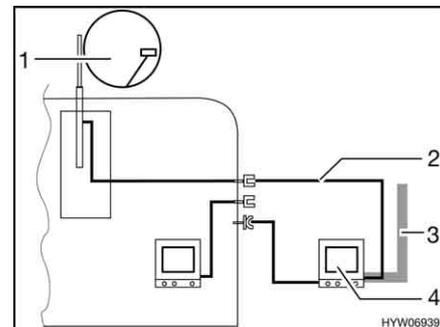

Fig. 170 TV in the awning
- TV inside the awning (Fig. 170,4): Connection to roof antenna (Fig. 170,1) with connection cable (Fig. 170,2)
- TV inside the awning (Fig. 170,4): Connection to external antenna (Fig. 170,3)